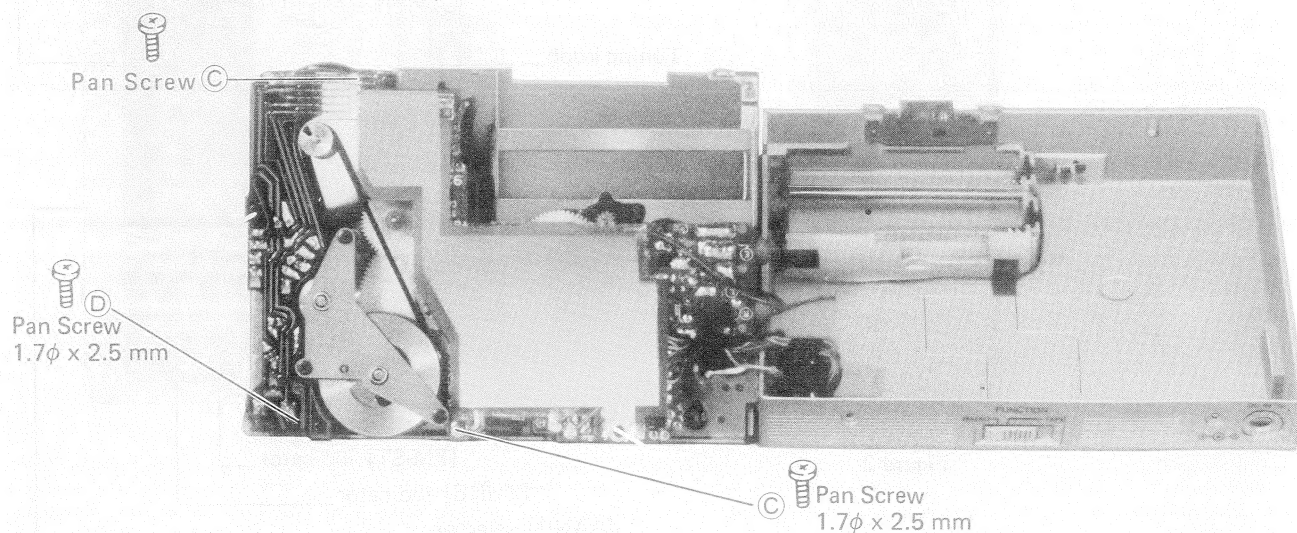

Figure 8
3. Remove three screws (C) retaining the P.C. Board and the mechanism assembly, and then remove two screws (D) retaining the motor P.C. Board and the mechanism assembly, (Figure 8)